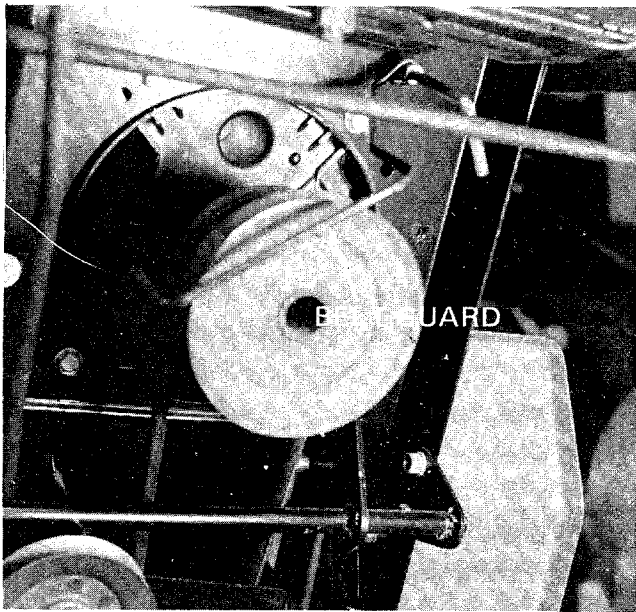

FIGURE 24.
4. Swing the belt guard forward towards the front of the tractor. See figure 24.